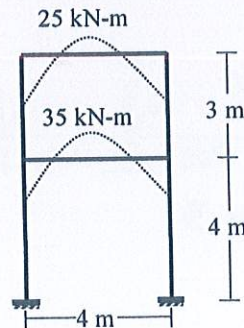

Fig.9
9. The positive moments of beams are shown in **Fig.9**. Analyze the frame to calculate gravity load using Vertical Load (Approximate) Method and draw the shear force diagram of the frame. [05]